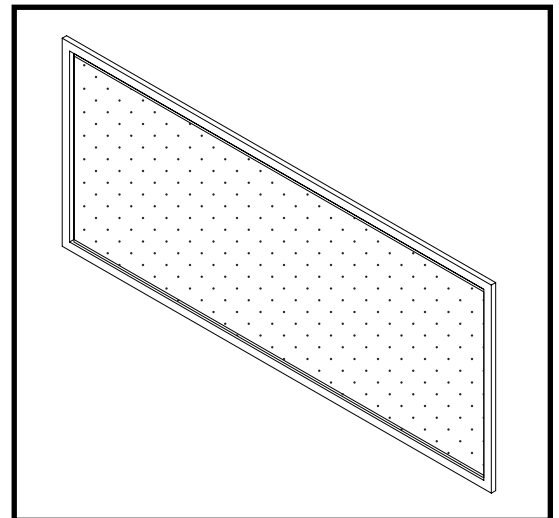

Figure 57: TCWS54 Safety barrier screen.
6. Attach the magnetic safety barrier screen (Figure 57) to the outer-most door frame. (Replacement part # 80002227).